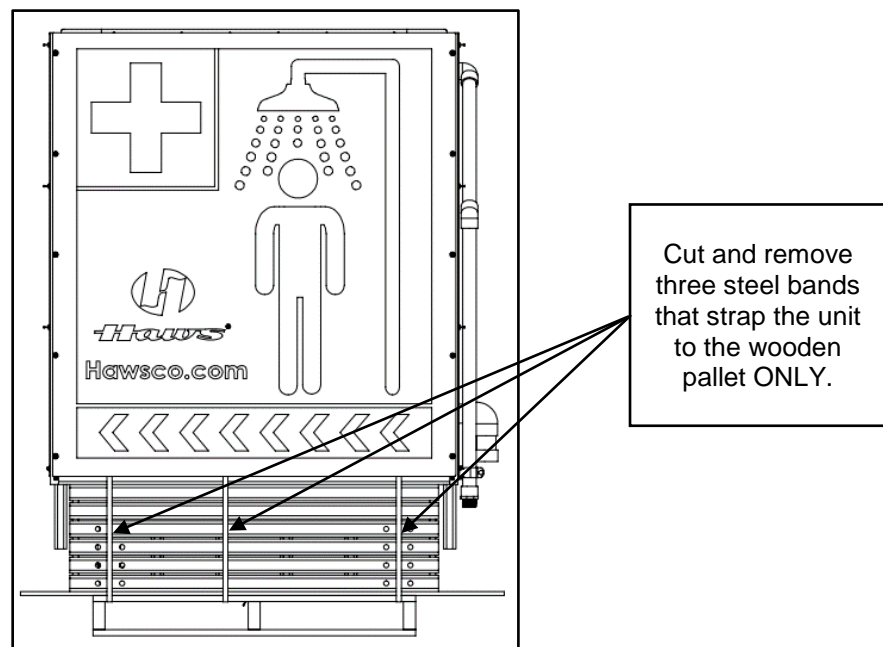

Figure 2. Removing 3 Steel Bands
5. Cut the three (3) steel bands that strap the unit to the wooden pallet as shown in Figure 2. DO NOT cut the steel bands on top of the tank assembly (these 4 bands retain the tank on the tank frame and will not be removed).